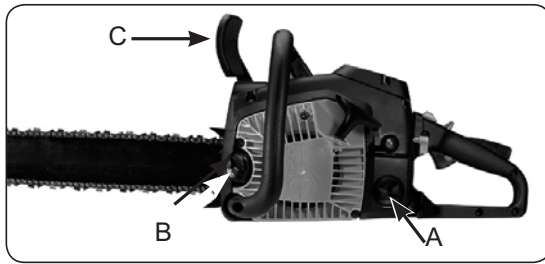

Fig. 6
1. Fill the fuel tank (A) with correct fuel mixture (Fig. 6).
2. Fill the oil tank (B) with correct chain and bar oil (Fig. 6).
3. Ensure the chain brake is disengaged (C) before starting unit (Fig. 6).